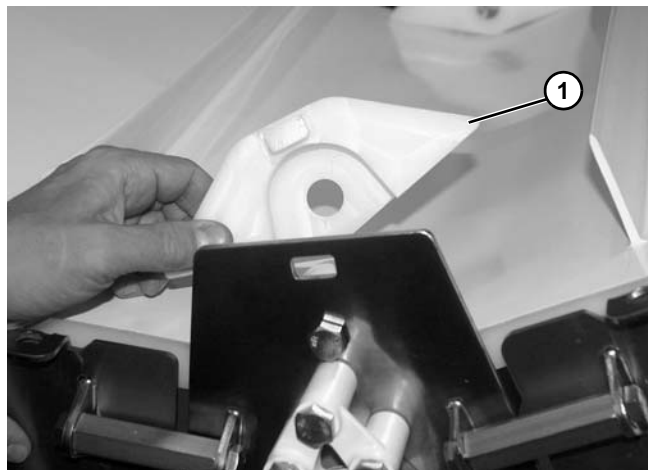

Figure 190
2. Remove roller guard (**Figure 190, item 1**).